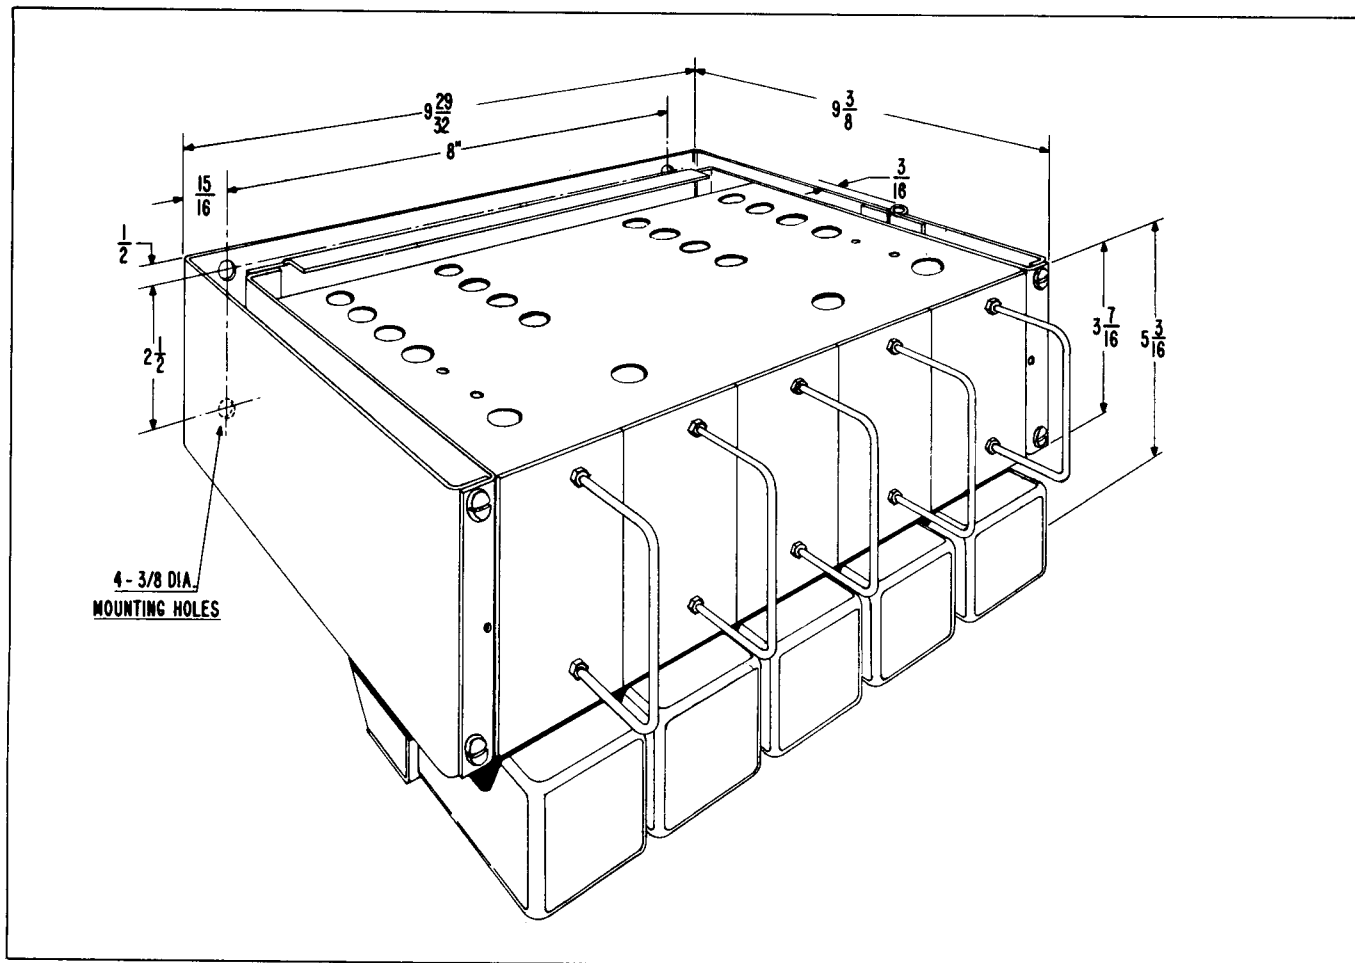

Fig. 5 - Outline and Drilling Plan of 5 Module Chassis
b) A five module wall mount chassis with a nominal overall size of $5\frac{1}{4}''$ h x $9\frac{15}{16}''$ w x $10\frac{5}{8}''$ d. Module shelf swings out 180° for easy access to rear terminals. Outline and drilling dimensions are shown in Figure 5.